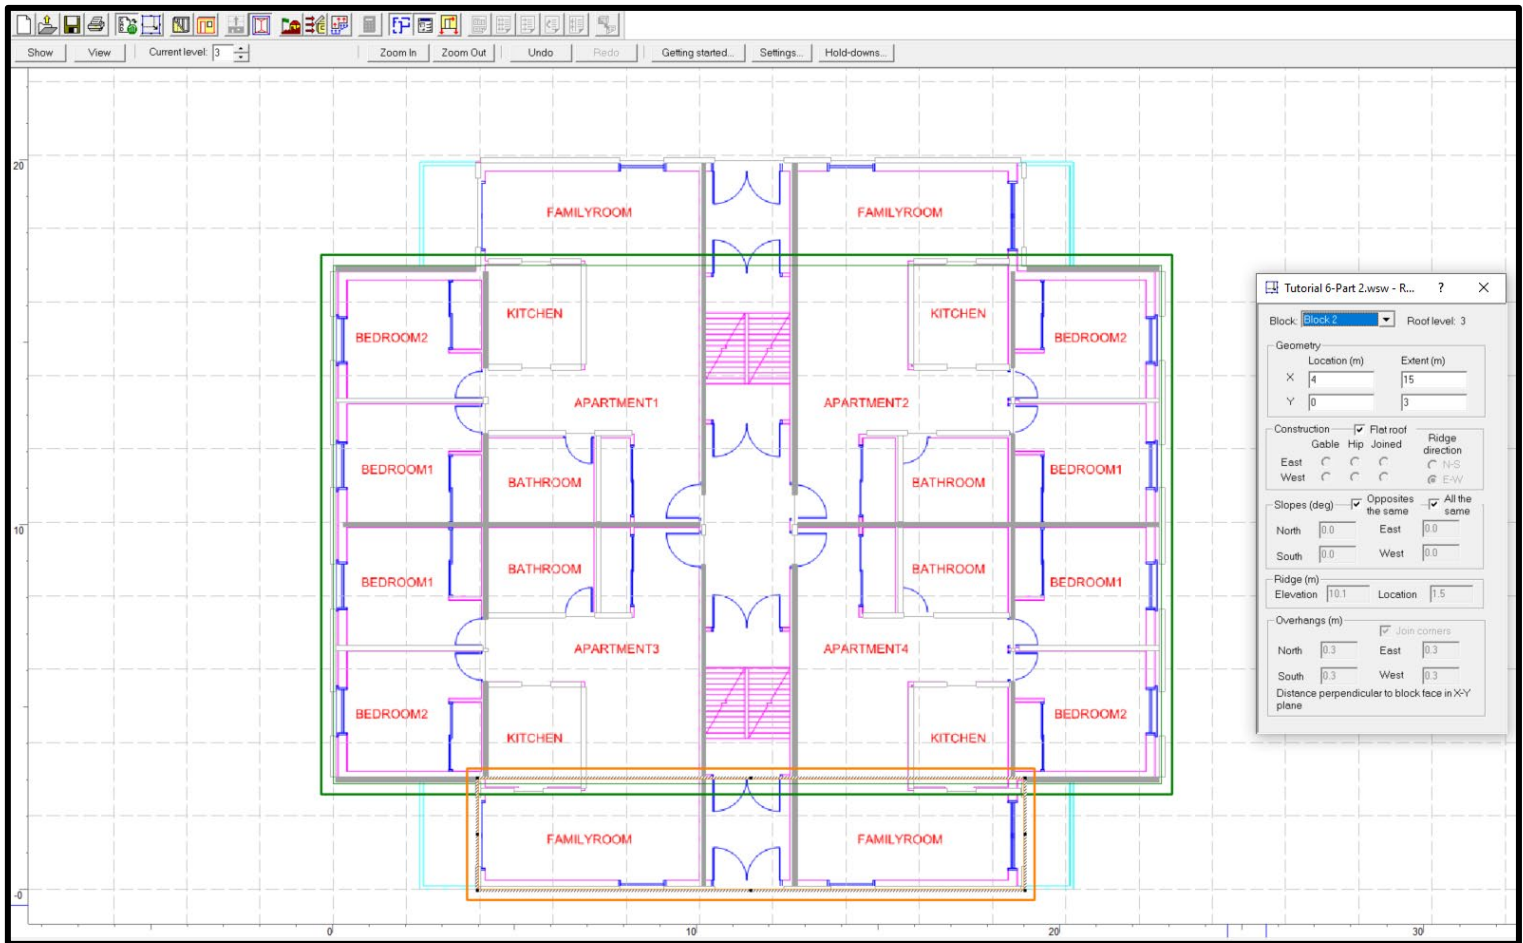

Figure 19: *Shearwalls Tutorial 6 – Second Roof Block*
4. Create and adjust a second roof block as shown in Figure 19.